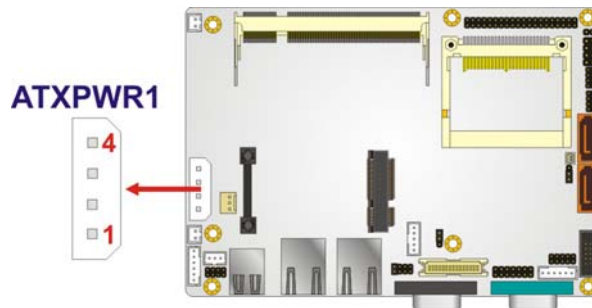

Figure 3-2: ATX Power Connector Location
- CN Location:** See **Figure 3-2**